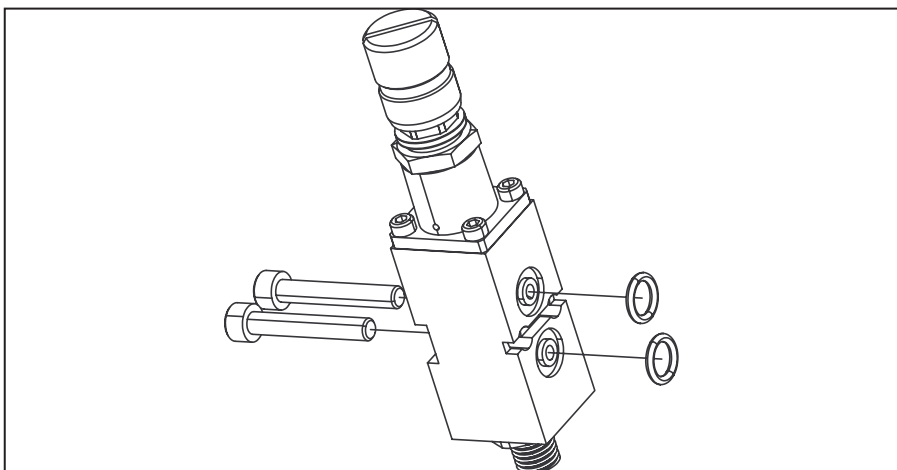

Bild 4: Fitting O-rings
6. Check the supplied O-rings for completeness and proper seat (see fig. 4).